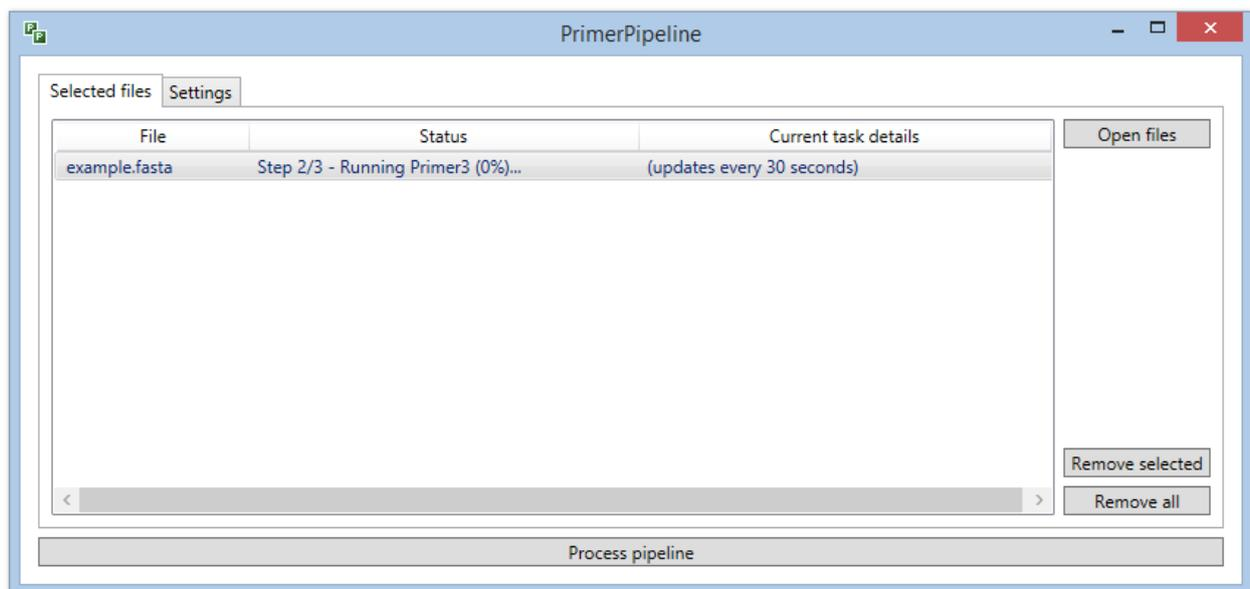

Figure 11. How **PrimerPipeline** looks for the first 30 seconds of step 2/3 – Running Primer3.
Running Primer3 (Figure 11 and 12)
- During the Primer3 step the 'Current task details' and percentage complete in 'Status' updates every 30 seconds. This was a decision based on a compromise to keep the user informed during the process but not to significantly increase running time. So for the first 30 seconds of Primer3 running, the 'Current task details' will say '(updates every 30 seconds)' as in Figure 11.